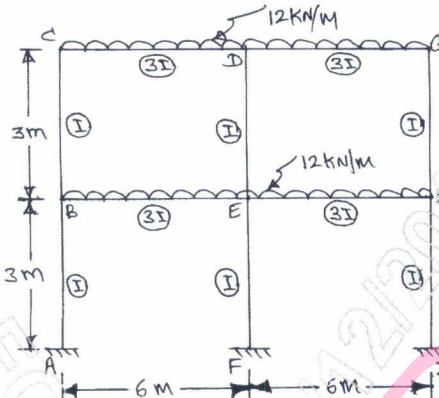

Fig. Q5
- 5 Analyse the multistorey building frame shown in Fig. Q5 by Kani's method and draw BMD. Use principle of symmetry only. (20 Marks)